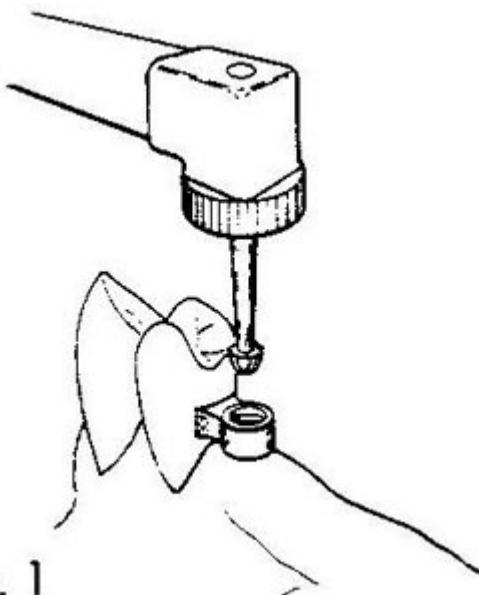

Fig. 1
1. Use the Carbide #7912 Round Bur to enlarge the female of the existing extracoronal attachment so that the bottom diameter of the ZAAG Female will pass through the center of it (**FIG 1**).